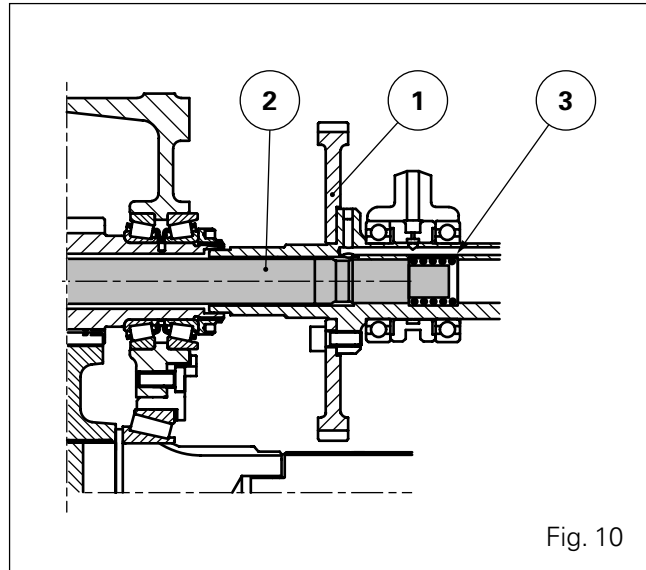

Fig. 10
78. Check that the undercut part of the PTO shaft (2) is pointing towards hydraulic-pump drive gear (1) (Fig. 10).